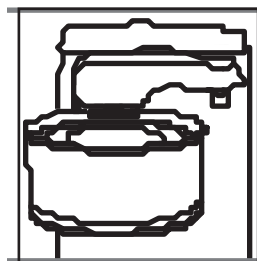

Fig. 3
4. Push can opener lever down firmly and hold until the can lid is automatically pierced and the cutting action begins as shown in Figure 3. NOTE: It is not necessary to hold the can opener lever down during the cutting cycle.